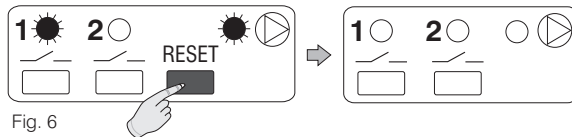

Fig. 6
- Briefly press the **“RESET” key**; when released the temporary forced control is cancelled (fig.6).